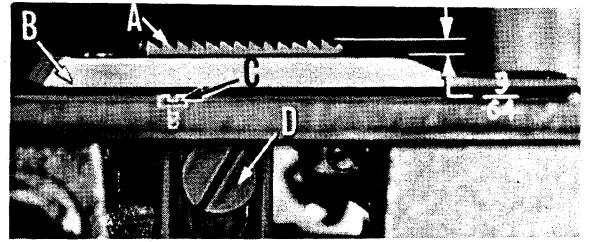

Fig. 9
Feed dog (A, Fig. 9) should be centered in throat plate (B) with equal clearance on all sides and ends with feed travel set to desired stitch length. At highest point of travel, tips of feed dog teeth should extend the depth of a tooth or approximately $\frac{3}{64}$ inch (1.2mm) above throat plate and parallel to same. Screw (C) should be set to support feed dog after screw (D) has been loosened which secures feed dog in position.